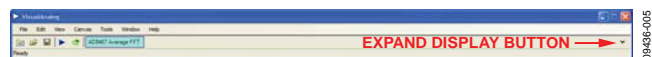
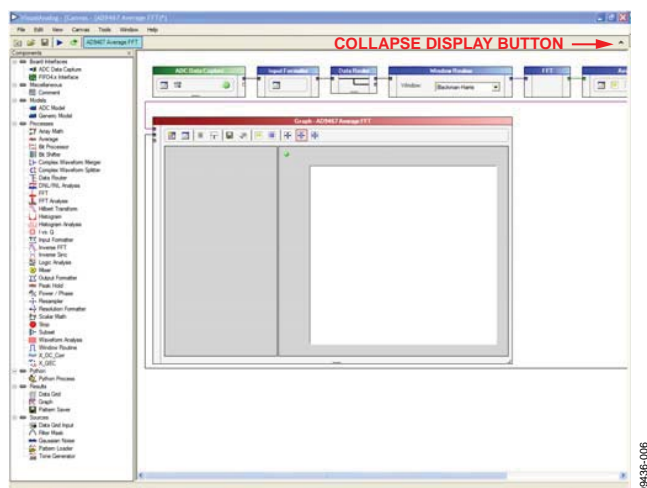
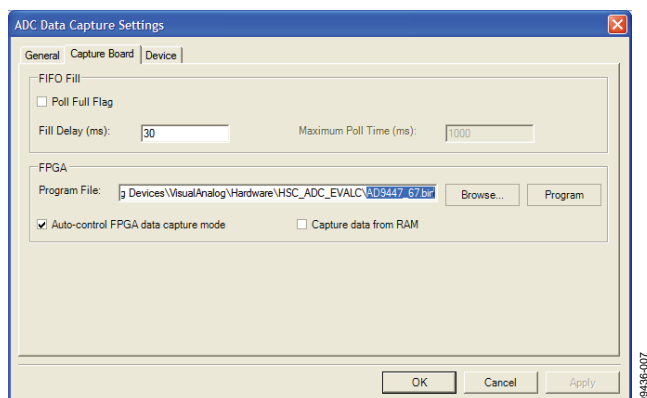

Figure 5. VisualAnalog Window Toolbar, Expand Display Button
Figure 6. VisualAnalog, Main Window Expanded Display
Figure 7. ADC Data Capture Settings, Capture Board Tab
3. To view different channels or change features to settings other than the default settings, click the **Expand Display** button located on the top right corner of the VisualAnalog window, as shown in Figure 5 and Figure 6.
4. Program the FPGA of the HSC-ADC-EVALCZ board to a setting other than the default setting as described in Step 3. Then expand the VisualAnalog display and click the **Settings** button in the **ADC Data Capture** block (see Figure 6). The **ADC Data Capture Settings** box opens (see Figure 7).